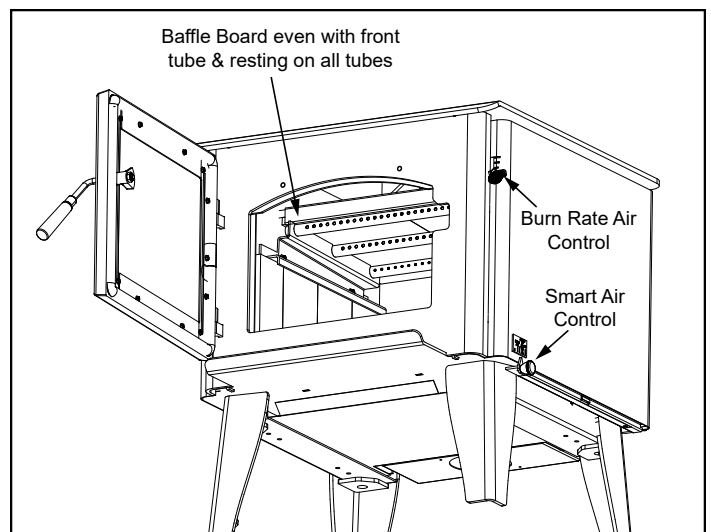
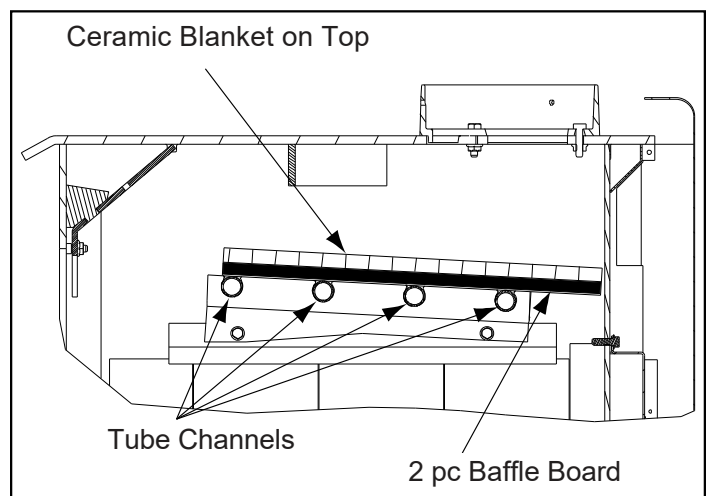

Figure 20.4
Figure 20.5
4. Re-install the baffle pieces one piece at a time. Be sure the baffle boards are even with the front manifold tube and is resting on all tubes (**Figure 20.4 and Figure 20.5**).
5. To re-install the ceramic blanket, it is easier to fold it in half first. Place on top of baffle board, open up and flatten and smooth out the blanket. Re-check the baffle board for correct positioning (**Figure 20.3 and Figure 20.4**).
4. Re-install the baffle pieces one piece at a time. Be sure the baffle boards are even with the front manifold tube and is resting on all tubes (**Figures 20.4, and Figure 20.5**).